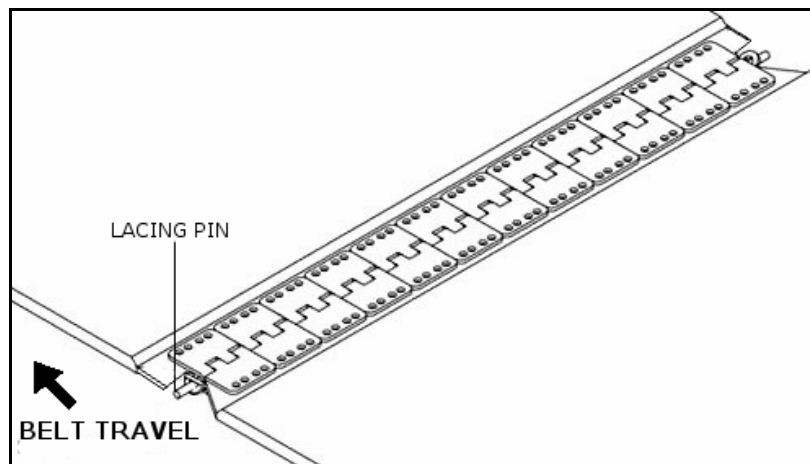

Figure 8.6 Belt Lacing Pin
4. Remove the lacing pin (see Figure 8.6).
Important: *Ensure that the belt is installed as shown in Figure 8.6. Note the direction of belt travel and square and trimmed edge positions.*